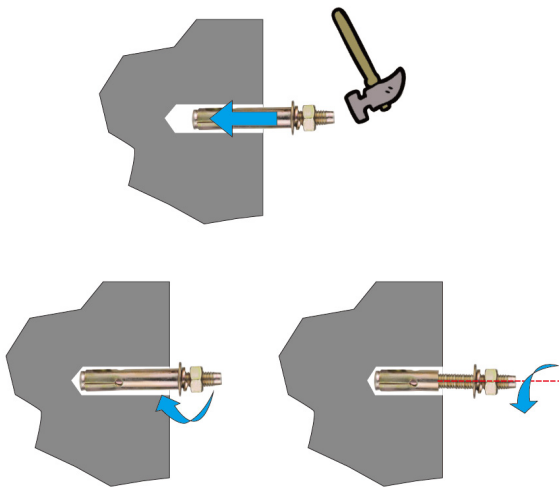

Figure 2-7: Install the expansion bolt
- 3 Hammer the expansion bolt completely into the drilled holes. Rotate the bolt clockwise to make the expansion sleeve wholly expanded, then rotate the nut counterclockwise and remove the spring washer, flat washer and nut (Figure 2-7).